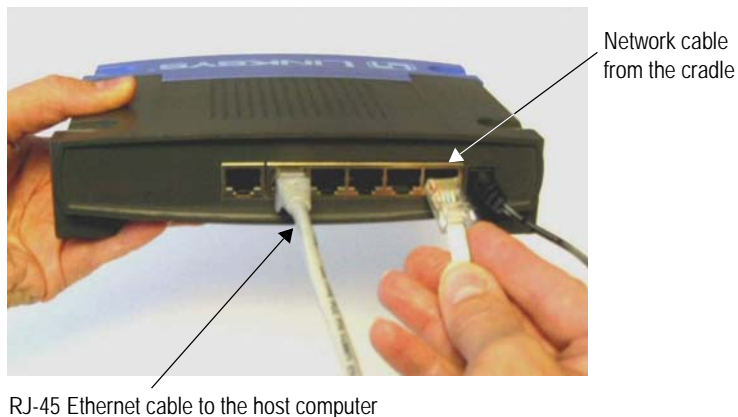

Figure 4.4 Network Cable Connection
- 7 With an additional Ethernet cable, insert one of its connectors into the back of the cradle and the other into the back of the router. See Figure 4.4.